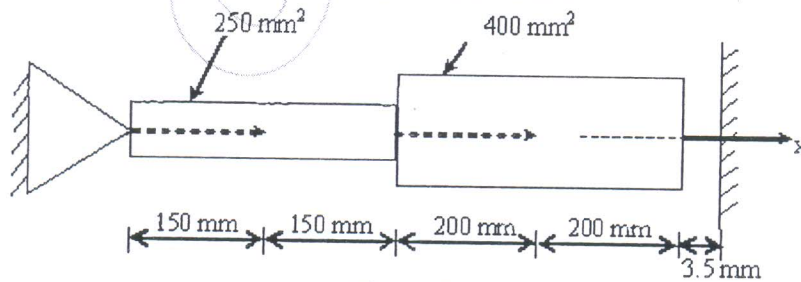

Figure.5
b) Determine the nodal displacements, element stresses and support reactions for the bar as shown in Figure 5. Take $E = 200 \times 10^9 \text{ N/m}^2$. [15]